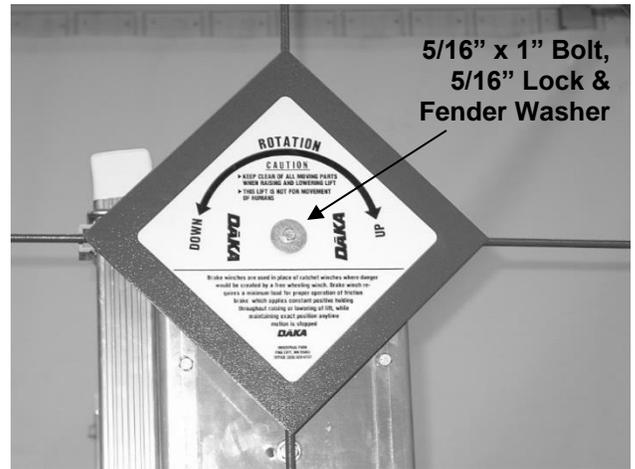

FIG. 33
3. Firmly lock in place using a 5/16" x 1" bolt, 5/16" lock washer and 5/16" fender washer (See FIG. 33 & 34).